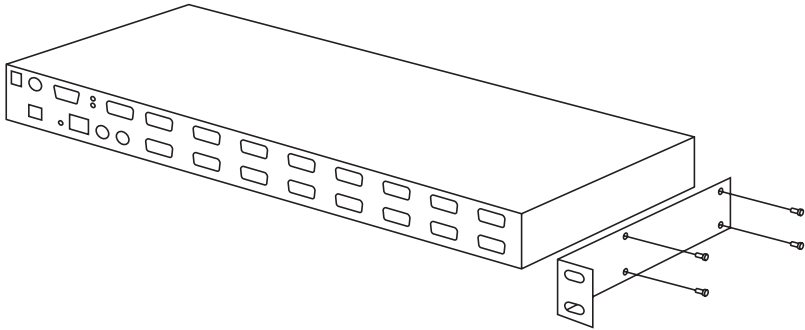

Figure 3-12. Rackmounting the ServSwitch.
2. If desired, mount the 4-, 8-, or 16-Port ServSwitch (KV9304A-R2, KV9308A-R2, or KV9316A-R2) in a standard rack or cabinet. Use the included rackmount brackets and screws. See Figure 3-12.